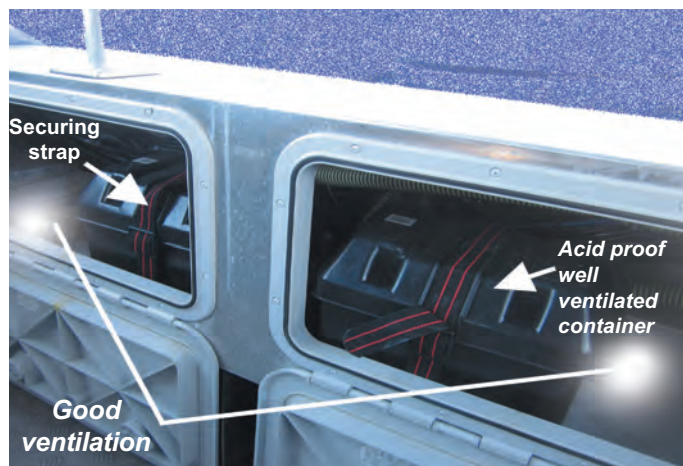

Figure 15.2 Battery stowage safety precautions
A parallel connection is made by linking the positive and negative poles. This leaves the system voltage unchanged but increases its storage capacity. Generally an isolation switch is fitted and the batteries can be switched between each other. This system is common for boats with large motors (Figure 15.2). This will only work as a backup if both batteries are properly charged.
- Make sure the battery is in an acid proof container, securely tied down to stop it coming loose during your trip and the battery box is ventilated to stop the build up of flammable gases as shown in Figure 15.2.